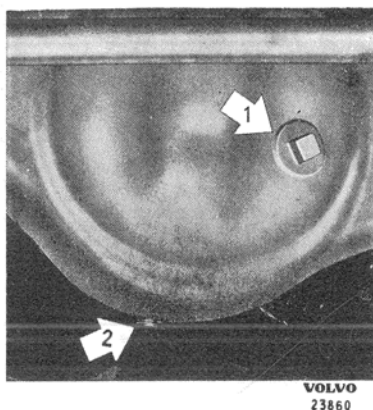
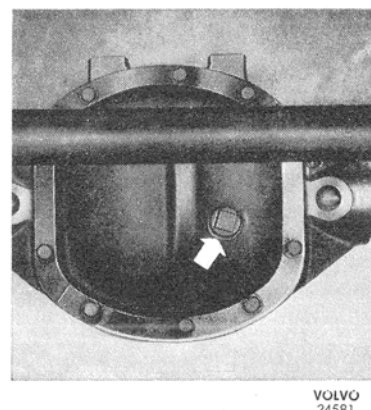

Fig. 6. Rear axle (ENV),
Fig. 7. Final drive (Spicer)
With a new or reconditioned final drive, the oil should also be changed and flushing carried out after the first 5 000 km (3 000 miles). Subsequently, the oil need only be changed after reconditioning concerning a late prod. type final drive (Fig. 7). For a final drive of early prod. type (Fig. 6), the oil should be changed every 40 000 km (25 000 miles). Oil changing should preferably be done immediately after the vehicle has been driven and while the oil is still warm. Draining is carried out by removing the plug (2, Fig. 6), when the filling plug (1) should also be screwed out. If there is no drain plug (Fig. 7) fitted on the final drive, the oil must be sucked out through the filling hole. It can also be emptied by removing the cover, but in this case the utmost cleanliness must be observed in order to prevent dirt from getting into the final drive. Check that the cover gasket is in good condition, otherwise replace it.